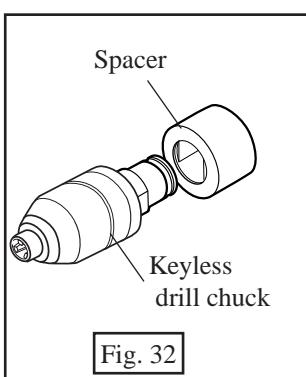

Fig. 32
- (5) Remove spacer from chuck holder. See Fig. 32.